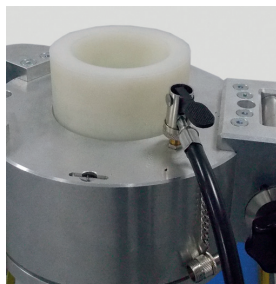

Fig. 10
- Connect the compressed air pump to the valve **(9)**, and use the clamping lever to secure the pump's connector in place (see Fig. 10).